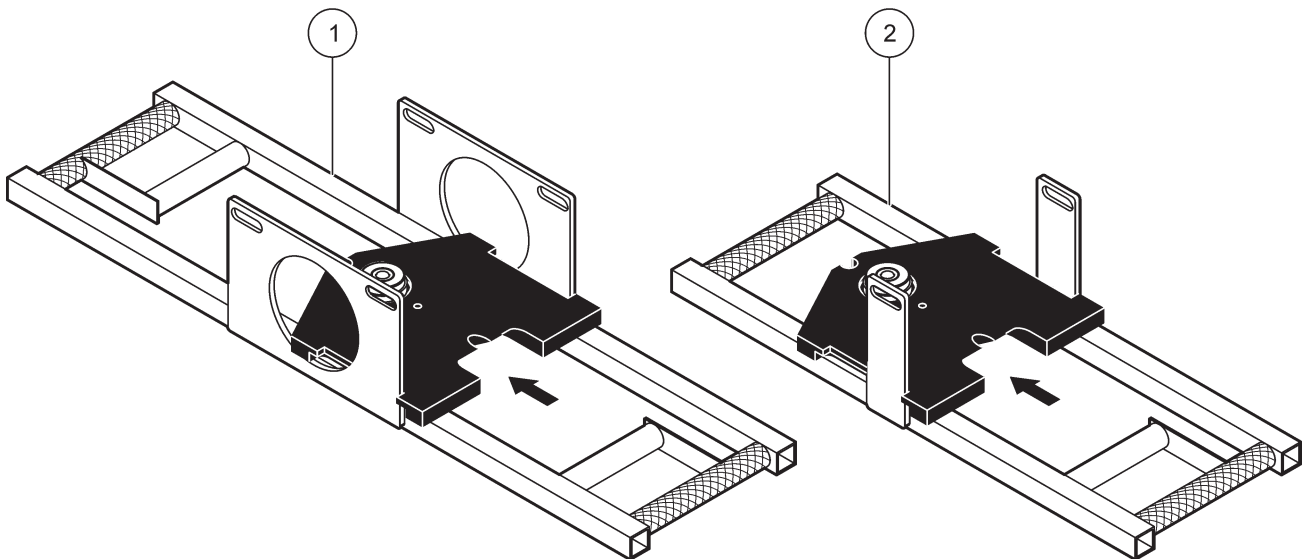

Figure 2 Laser alignment tool on frame
Depending on the sensor frame used, it is important to position the laser alignment tool with the back edge of the slots on either side fully against the vertical brackets of the mounting frame. Refer to Figure 2 for the correct position.
2. Position the alignment tool on the frame as shown in Figure 2.